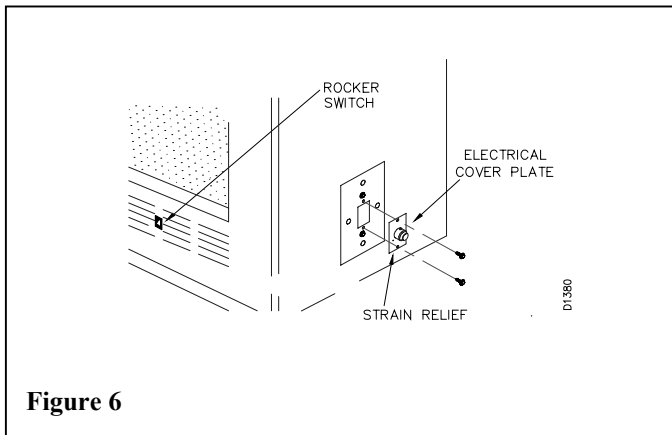

Figure 6
A fan kit assembly is preinstalled in this fireplace. Use of blowers or fans other than manufactured by DESA voids the warranty. The fan is operated by pressing the rocker switch located at the lower right hand corner of the fireplace face. Fan kit electrical connections are made through the electrical cover plate located on the side of the fireplace as shown in figure 6.
- Remove electrical cover plate (with strain relief) from the fireplace by removing the two sheet metal screws as shown in figure 6.